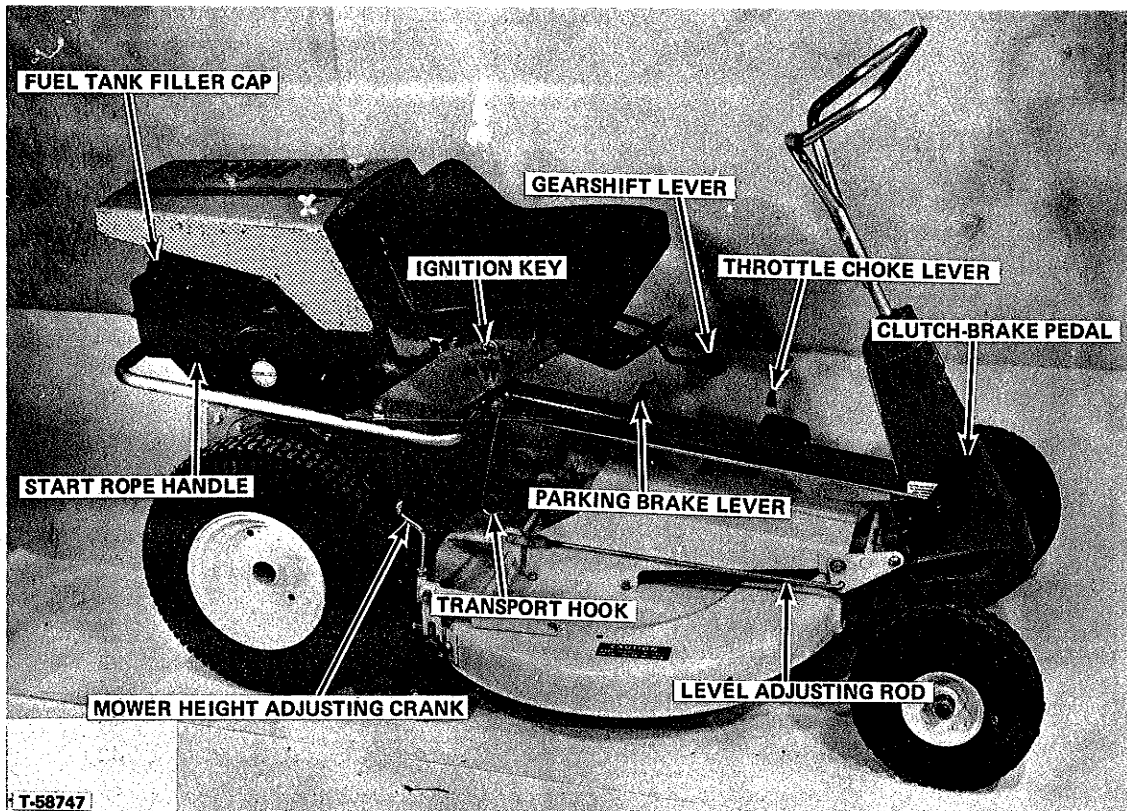

FIGURE 1
CONTROLS (See Figures 1 and 2)
9. Parking Brake Lever - The parking brake lever should be pulled up to the vertical position as shown to lock the brake. (See Figure 1).